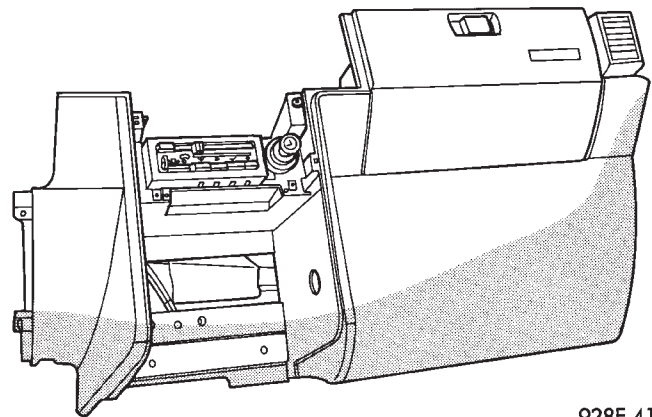

Fig. 39 Lower Right Instrument Panel
- (6) Remove attaching screws and right lower panel (Fig. 39).